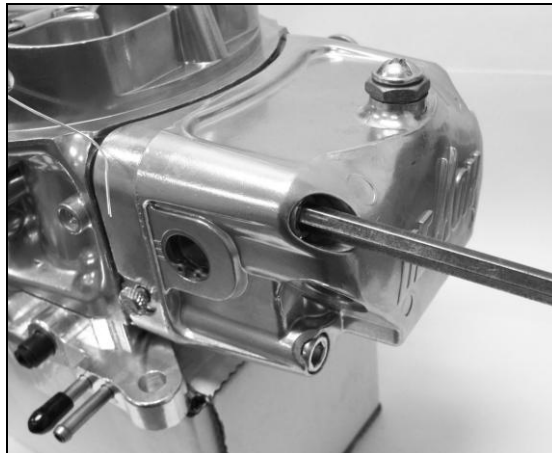

Figure 1
1. Remove the primary fuel bowl. Four screws, located at each corner of the bowl (Fig. 1), hold both it and the metering block in place. When either one of the lower screws is loosened, fuel will begin seeping out, unless the carb has been drained. If the carburetor has been in service for some time, the screw gasket will tend to stick to the fuel bowl.